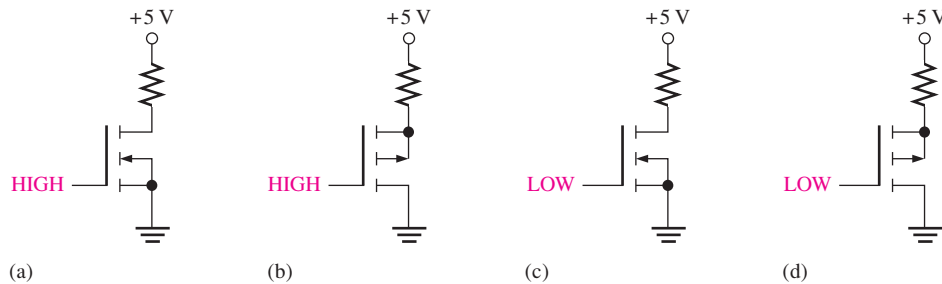

FIGURE 15-53
13. Determine the state (on or off) of each MOSFET in Figure 15-53.